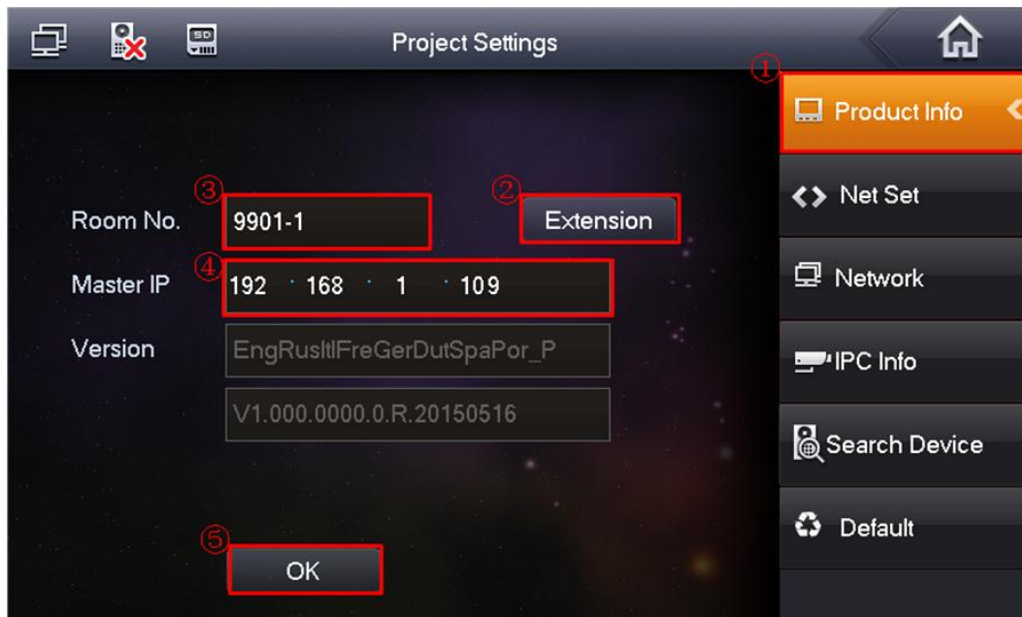

Figure 2-13
Step1 Press Product Info, See Figure 2-13